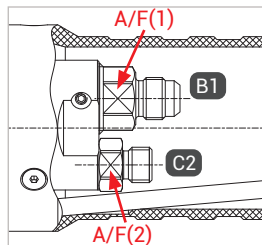

Figure 1
- ▶ When mounting the filling and venting hose, hold an open-ended wrench against the wrench size A/F(1) and A/F(2) (Figure 1).
- ▶ Screw the media inlet 'B1' pressure-tight onto the connection port of the filling hose (Figure 1).
- ▶ Screw the gas recirculation 'C2' pressure tight onto the connection port of the venting hose (Figure 1).